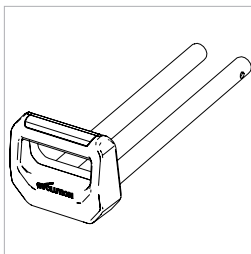

Fig. 4
- The carriage slides **(Fig. 4)**